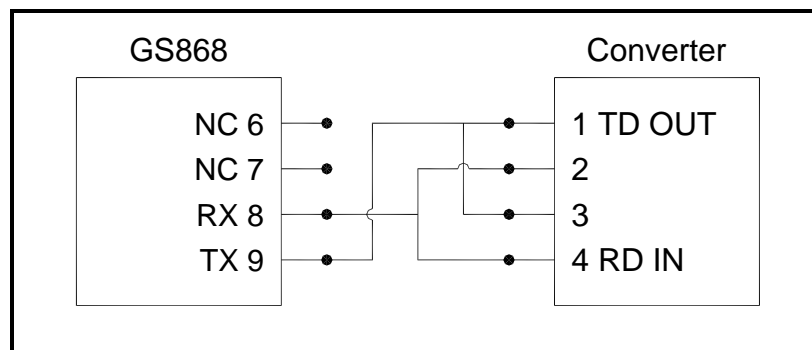

Figure 4: Typical RS485 Connections
3. Feed one end of the cable through the conduit hole, wire it to terminal block J1 and secure the cable clamp. Connect the other end of the cable to the converter, as shown in Figure 4.